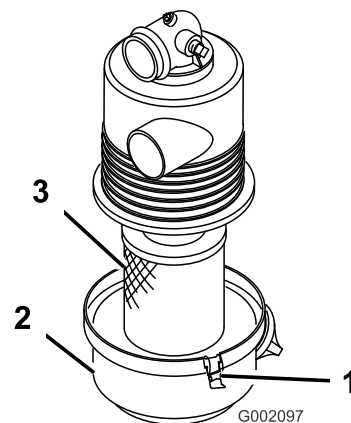

Figure 18
1. Check the air cleaner body for damage, which could possibly cause an air leak. Ensure that the cover seals around the air-cleaner body (Figure 18).
2. Release the latches securing the air-filter cover to the air-filter housing (Figure 18).
3. Separate the air-filter cover from the air-filter housing, and clean the inside of the cover (Figure 18).
3. Insert the air-filter element into air-filter housing (Figure 18).
4. Align the air-cleaner cover with the air-cleaner housing (Figure 18).
5. Secure the cover to the housing with the latches (Figure 18).